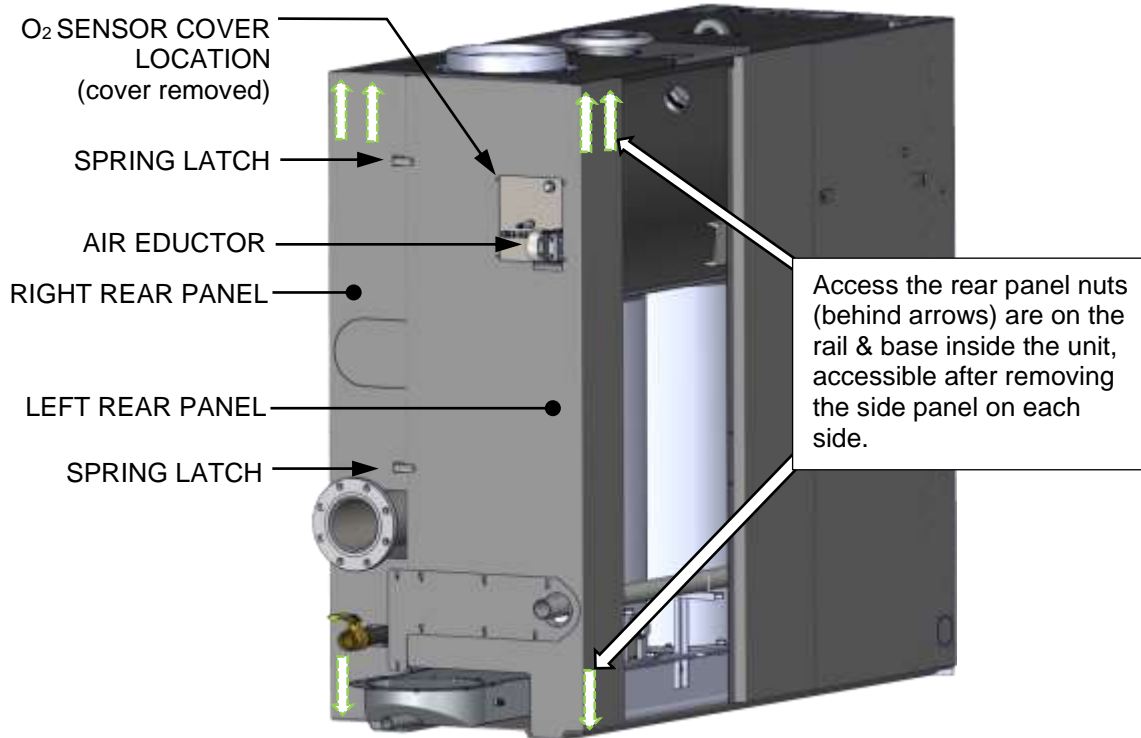

Figure 4-7: Rear View Showing Rear Panel Nut & Latch Locations
NOTE: At the top, the left and right-rear panels are attached to the left and right top rails by nuts. At the bottom, each rear panel is attached to the base with one nut each. Access the nuts for removal through the side panel, as shown in Figure 4-7.
4. Remove the left-rear panel, which is held in place by 2 spring latches and 7/16" bolts, inside the panel on the top rail and bottom lip. See Figure 4-7, below.